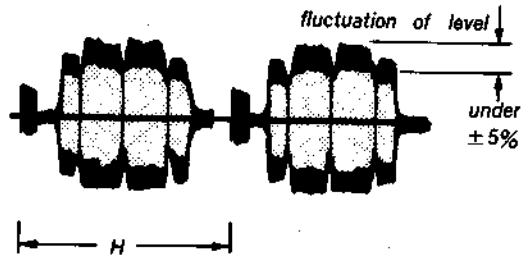

Fig. 5-27. JOG Exchange Chroma level adjustment
- (1) Adjust RV020 so that the fluctuation of level is minimum (See Fig. 5-27)